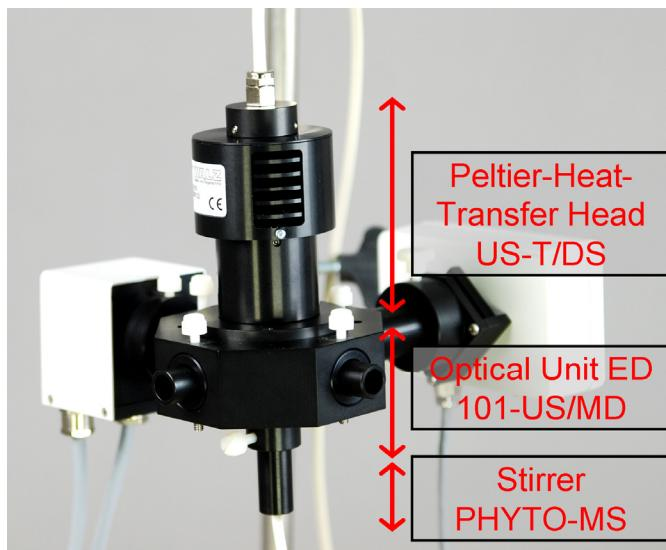
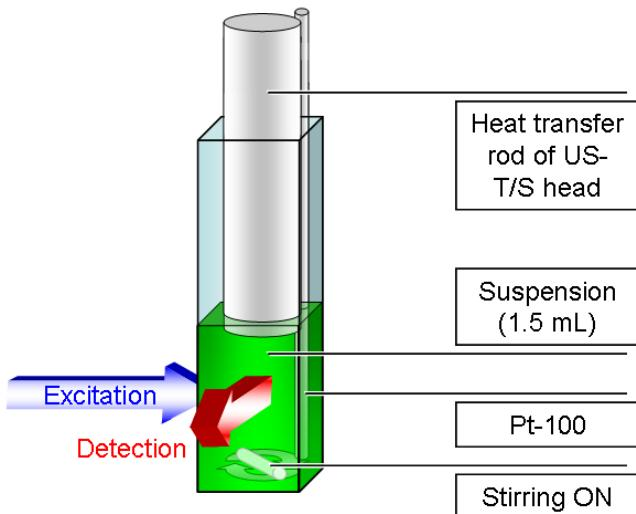

Fig. 3: Peltier-Heat-Transfer Head US-T/DS on top of an ED-101US/MD optical unit
Fig. 4: Heat transfer rod and Pt100 thermometer in standard 10 mm x 10 mm cuvette.
- In the new version of the US-T unit, the Pt100 temperature sensing resistance and the heat transfer rod of the US-T/DS head are separated (Fig. 4, page 12). This configurations permits accurate adjustment of temperatures in the suspension.
- Carefully place Peltier head on top of Walz optical unit (Fig. 3). Positioning the Pt100-rod opposite to the illuminated surface minimizes shading by this rod (Fig. 4, page 12). When fluorescence is detected at right angles to illumination, positioning the Pt100-rod opposite to the detection side minimizes shading of fluorescence by the rod.